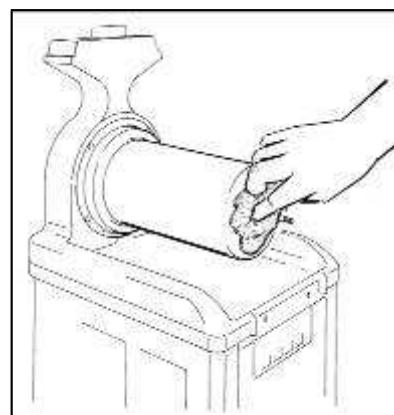

Рис. 33
- Thoroughly wash the evaporator and the drip tray surfaces with a sponge soaked with the sanitizer (see Рис.33).